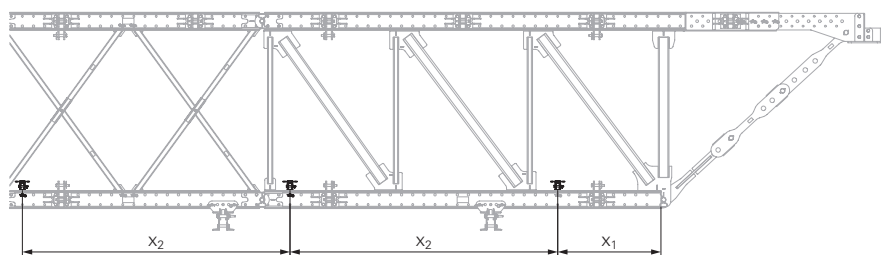

Fig. E1.03
3. Fit additional connections (**80**) at a spacing of x_2 . (Fig. E1.03)